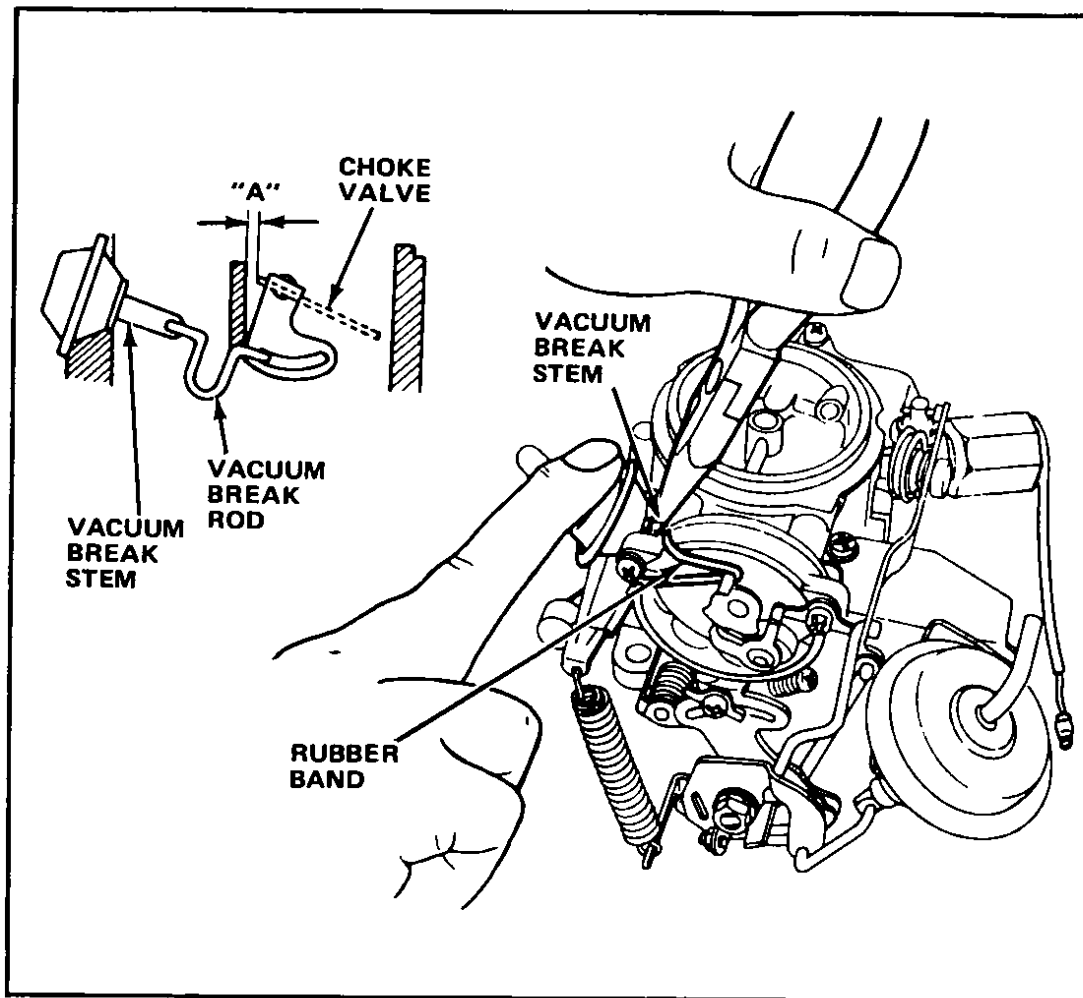

Fig 49 Choke vacuum adjustment
- 3 Hold the choke valve by stretching a rubber band between the choke shaft lever and the stationary part of the carburetor, Fig 49
- 5 Adjust gap "A" Fig 49 by bending the vacuum break rod Clearance for cars with manual transmission 1 140-1 260 mm (0 045-0 050 in) Clearance for cars with automatic transmission 1 205-1 335 mm (0 047-0 053 in)